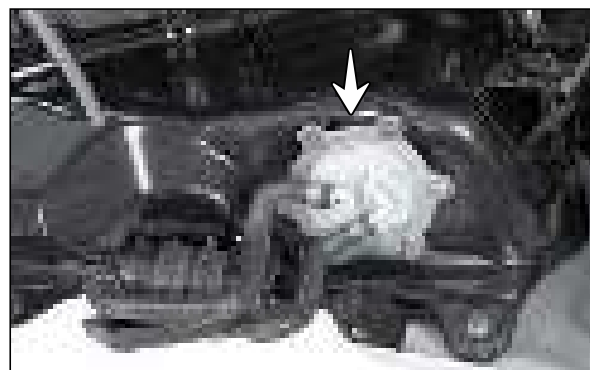

Fig. 5.55
- The fuel pump module is fitted in the fuel tank, used to pressurize the fuel available in the fuel tank and supplied to the fuel injector. (Fig. 5.55)